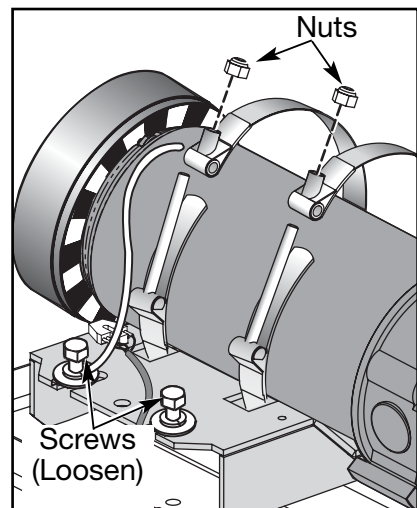

Figure 12
- A. Using a 1/2" socket wrench, loosen but (do not remove) the two screws on the motor saddle. See Figure 12. **NOTE:** The tension is now released. You will remove motor ground cable in step 5A.
- A.** Using 7/16" open end wrench, remove the nut on each motor strap and remove the motor straps from the motor saddle. See Figure 12.